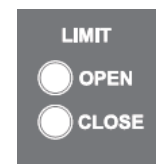

Figure 25. Attach Chain Cover
- With the DC power switch OFF and AC power switch ON, manually push the gate between full open and full closed positions. Verify that the correct LEDs (Open or Close) illuminate on the SmartTouch 725 Controller (Figure 25). If incorrect LEDs illuminate, switch L1 and L2 positions on drive board.